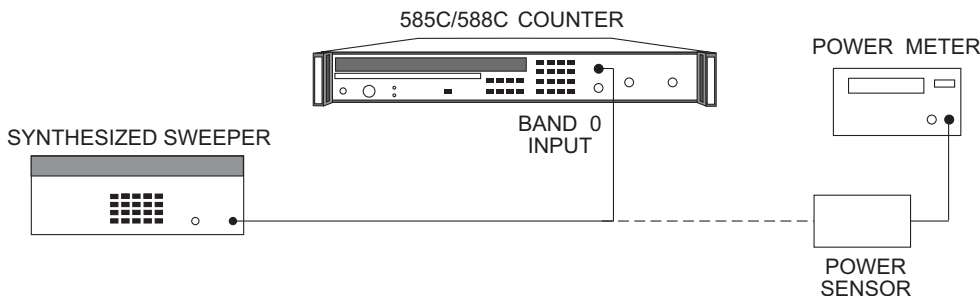

**Figure 6-1. Band 0 Range and Sensitivity Test Setup (100 Hz to 10 MHz)**
1. Connect equipment as shown in Figure 6-1.